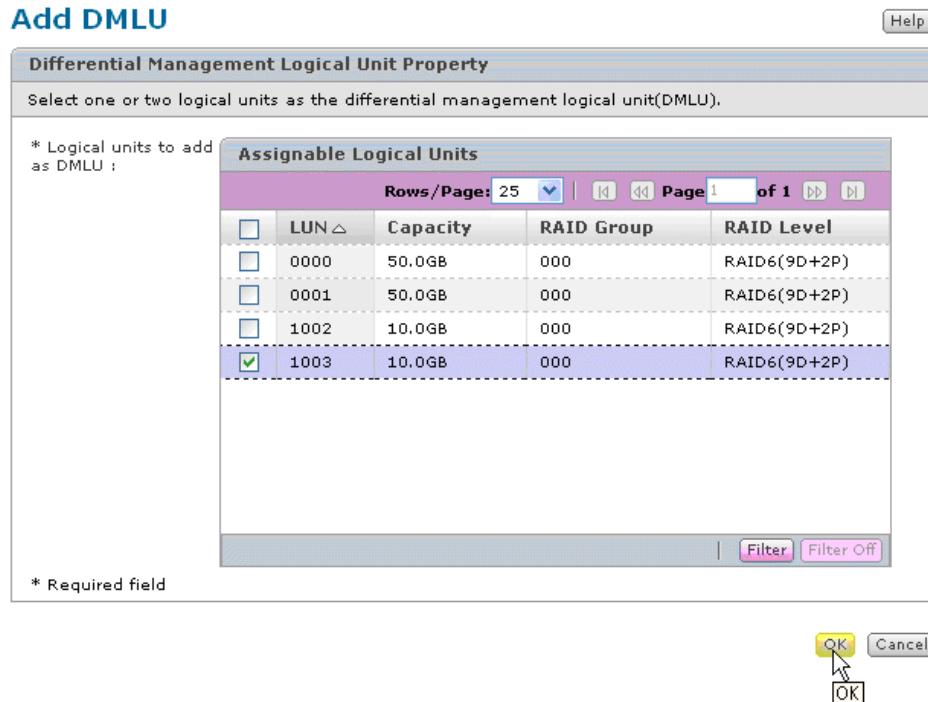

Figure 5-1: Add DMLU Screen
2. Click **Add DMLU**. The Add DMLU screen displays, as shown in Figure 5-1.